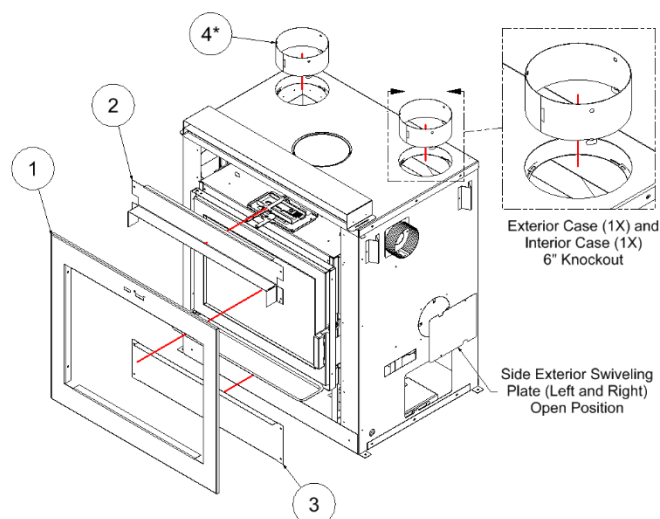

Figure 3-10: Contemporary Surround
The Contemporary surround comprises no louvers; however, an intake into the chase and an outtake through gravity ducts is required for this configuration. The instructions below describe the installation of the Contemporary surround. Refer to Figure 3-10 and Table 3-4 for the instructions below. Refer to Section 3.5 for Gravity Kit installation instructions.
2. Fasten the Top and Bottom Surround Bracket (Item 2 and Item 3 respectively in Figure 3-10) with 4 metal screws each.
3. Place the Contemporary surround (Item 1 in Figure 3-10) within the door holder and secure it in place with 4 black screws (one on each corner). Make sure that the handles of the Combustion Air Control pass through the slots of the surround.
5. Secure the Intake Swivel Covers on the bottom sides of the unit to the **open** position (Figure 3-10).
6. Remove the 6 inch knockouts at the top exterior case (2X) and the top interior shield (2X) of the unit using a flat head screwdriver (Figure 3-10).
7. Install the 6 inch duct adapters (Item 4* in Figure 3-10) on the newly cut knockouts of the exterior case by aligning/inserting the tabs to the slots and turning counter clockwise to lock in place. Note that the duct adapters are included in the Gravity Duct Kits (refer to Section 3.5).
The Clean Face surround comprises no louvers; however, an intake into the chase and an outtake through gravity ducts is required for this configuration. The instructions below describe the installation of the intake openings, and the gravity ducts/outtakes. Please note that the SUPREME KG560 kit is required for the Gravity Kit installation (Figure 3-10). Note that openings for the intake and the outtake are to be incorporated in the construction of the chase (refer to Section 3.7). Note that the duct adaptors are included in the Gravity Duct kits.
- The intake swivel covers at the bottom sides must remain open for all Contemporary Surround installations (refer to Figure 3-10).